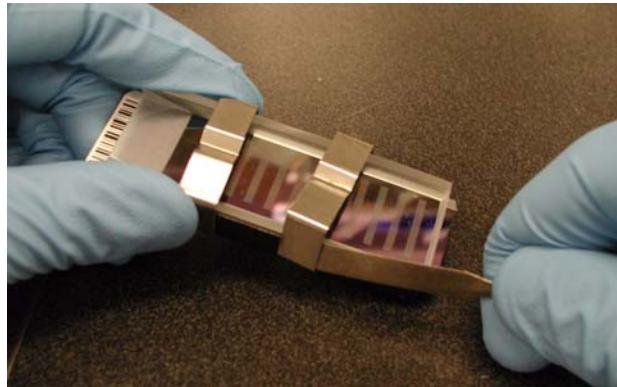

Figure 72 Removing the Metal Clamps from Flow-Through Chamber
- a. Use the dismantling tool to remove the two metal clamps (Figure 72).